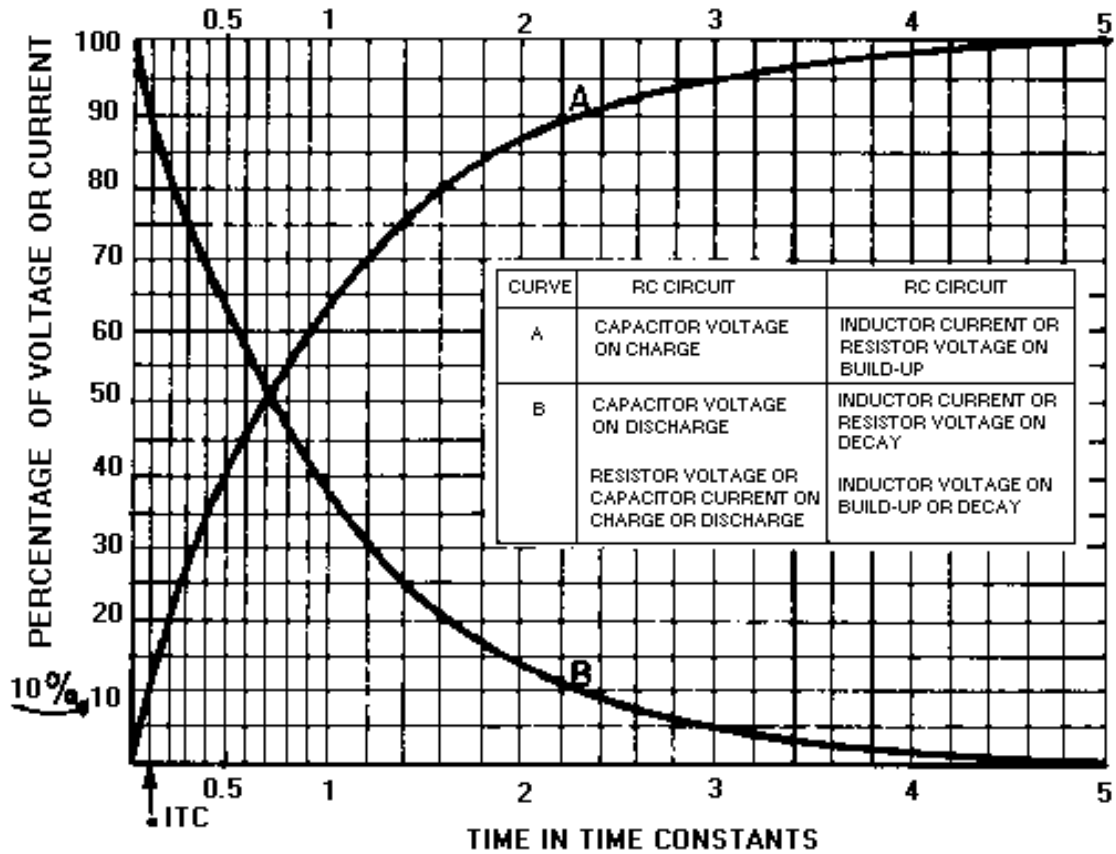

Figure 3-39.—Universal Time Constant Chart.
By selecting the sizes of R and C, you can have a time constant of any value you desire. Further, by controlling the time S1 remains closed, you can generate a sawtooth of any duration. Figure 3-39 is the Universal Time Constant Chart. Notice in the chart that if 1 time constant is 1,000 microseconds, S1 (figure 3-38, view (A)) can be closed no longer than 100 microseconds to obtain a reasonable linear sawtooth. In this example, C1 will charge to nearly 10 volts in 0.1 time constant.
As stated in the discussion of time-base generators, the waveform produced from any sawtooth generator must be linear. A LINEAR SAWTOOTH is one that has an equal change in voltage for an equal change in time. Referring to the Universal Time Constant Chart in figure 3-39, you can see that the most desirable part of the charge curve is the first one-tenth (0.1) of the first TC.
Decreasing the value of the TC ( $R_2$  or  $C_2$ ), as shown in figure 3-43, view (B), results in an increase in the number of time constants and therefore causes linearity to decrease. Anytime the number of time constants increases, the percentage of charge increases (see the Universal Time Constant Chart, figure 3-39), and amplitude (physical length) increases. Without an increase in gate length, the time that  $C_2$  is allowed to charge through  $R_2$  remains the same; therefore, electrical length remains the same. Linearity is affected by gate length, the value of  $R$ , and the value of  $C$ ; but is not affected by changing the value of  $V_{CC}$ . Increasing the gate length decreases linearity, and decreasing gate length increases linearity. Increasing  $R$  or  $C$  in the circuit increases linearity, and decreasing  $R$  or  $C$  in the circuit decreases linearity.
The electrical length (sweep time), which is measured from T2 to T3, can be found by multiplying RC times the number of time constants. Refer to the Universal Time Constant Chart (figure 3-39) again to find that 57 percent is 0.83TC. By multiplying 0.83 times R1C1, you will find that the electrical length is approximately 21 milliseconds: